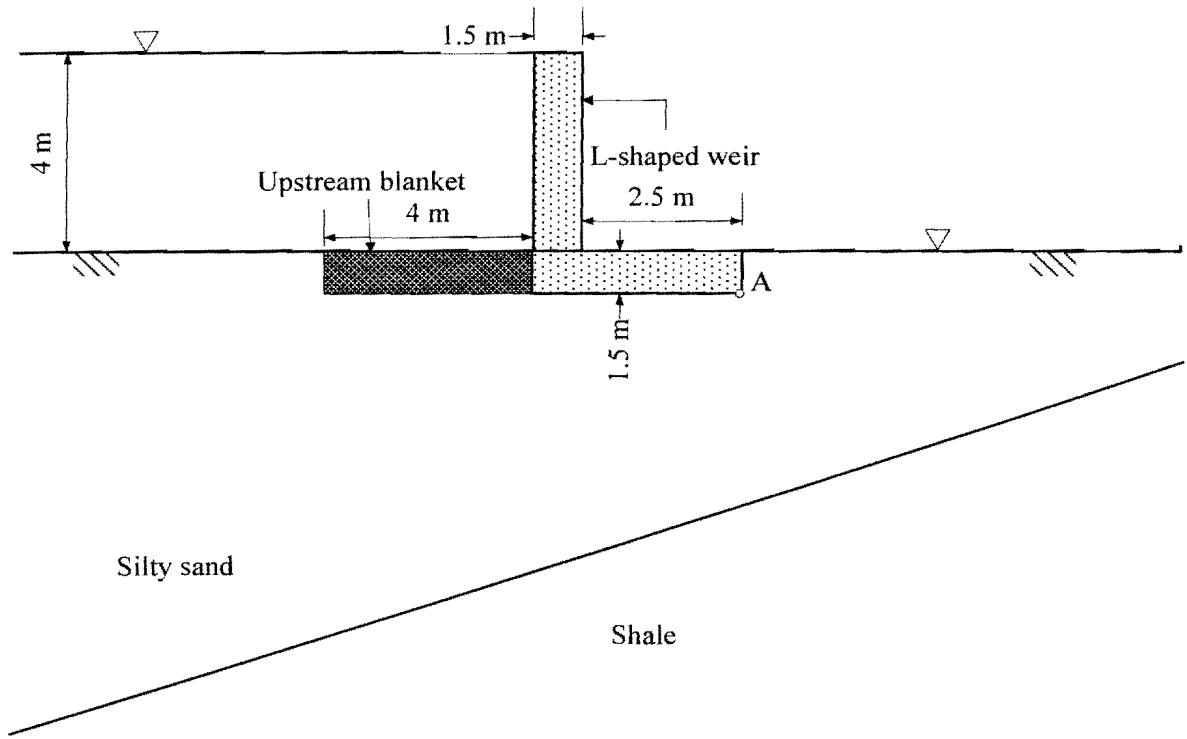

Fig. 1
*Extra copy of Fig. 1 (Question 1)*
1 An L-shaped concrete weir is to be constructed to act as a flood defence on a silty sand layer as shown in Fig. 1. The silty sand layer is underlain by shale with an inclined interface as shown in Fig. 1. In the extreme case, the concrete weir will retain flood waters to a height of 4 m. An upstream blanket made from compacted clay is added to minimise the seepage loss below the weir.
(a) Draw a flownet for seepage below the concrete weir on the copy of Fig. 1 provided in the attachments. This sheet must be handed in with your answer. Draw attention to any shortcomings in your solution. [20%]
(d) The friction angle between concrete and the silty sand is  $25^\circ$ . Calculate the factor of safety against sliding. Take unit weight of concrete as  $24 \text{ kNm}^{-3}$ . Also calculate the factor of safety against rotation about point A shown in Fig. 1. [30%]
Extra copy of Fig. 1